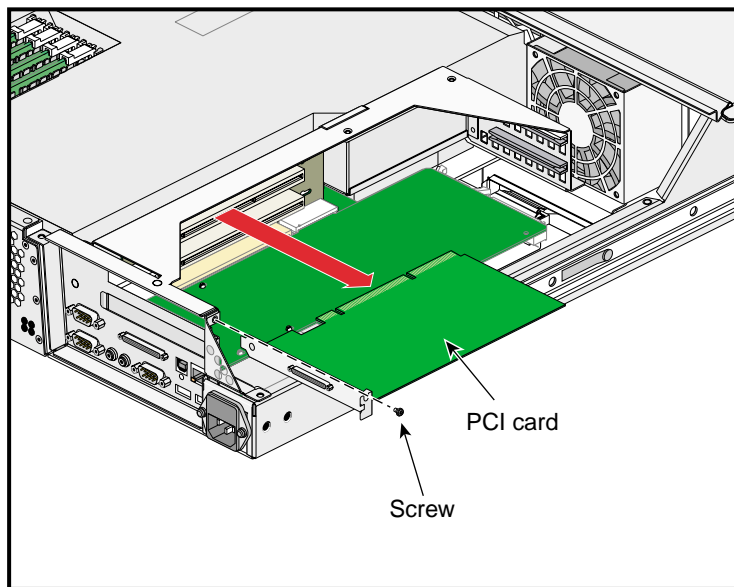

Figure 4-6 Removing a PCI Card
6. Release the retaining screw of the card as shown in Figure 4-6.